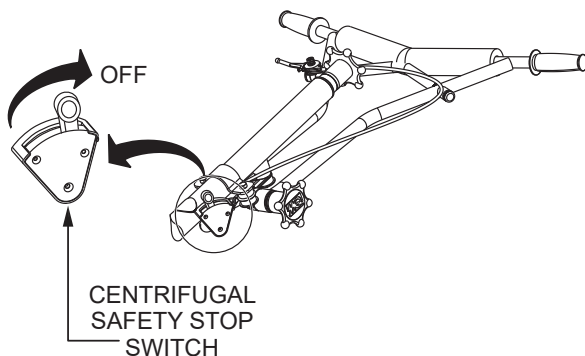

Figure 48. Centrifugal Safety Stop Switch (OFF)
3. Place the centrifugal safety stop switch (Figure 48) in the **OFF** position.